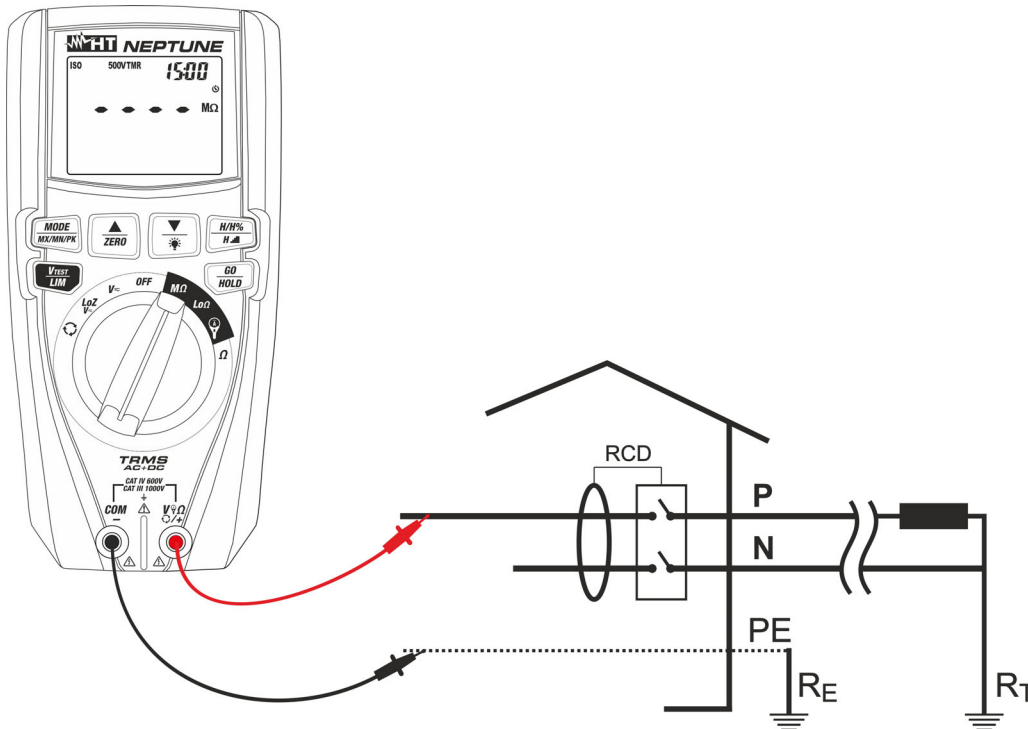

Fig. 19: Use of the instrument for insulation resistance measurement in TMR mode
6. Insert the red lead into input terminal **V $\Omega$ +/+** and the black lead into input terminal **COM/-** and possible alligator clips, and connect the instrument to the system to be tested (see Fig. 19).